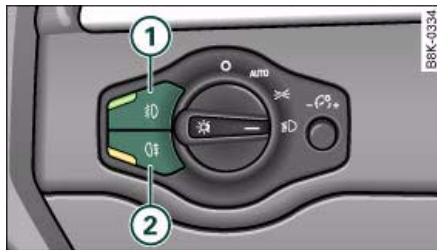

Fig. 55 Switch for front fog lights
- Press button ① ⇒ fig. 55 to switch on the front fog lights .
- Press button ② to switch on the rear fog lights .